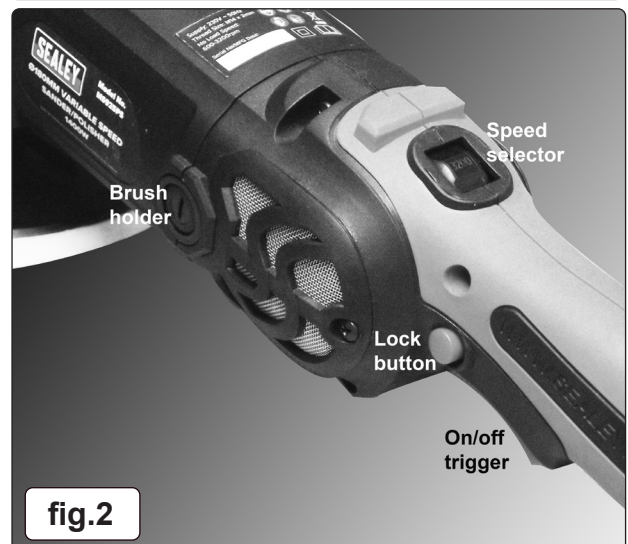

fig.2
- 6.3. Check carbon brushes by removing each side brush holder (fig.2).